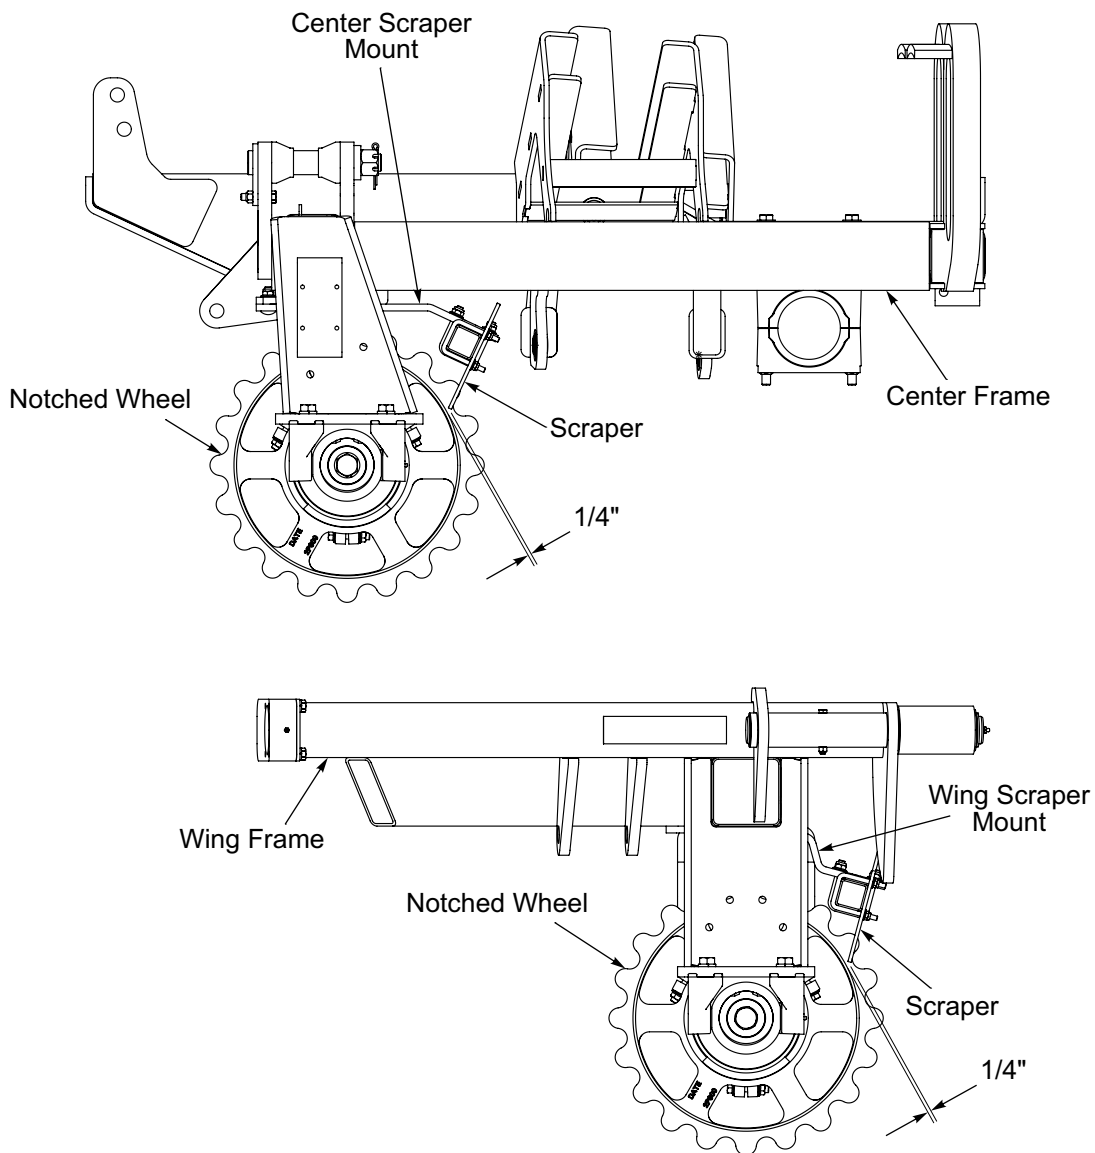

Figure 3-8: Scraper Adjustment
3. Adjust Scrapers as needed to obtain a 1/4" gap between the Scraper and Notched Wheel. **See Figure 3-8.**